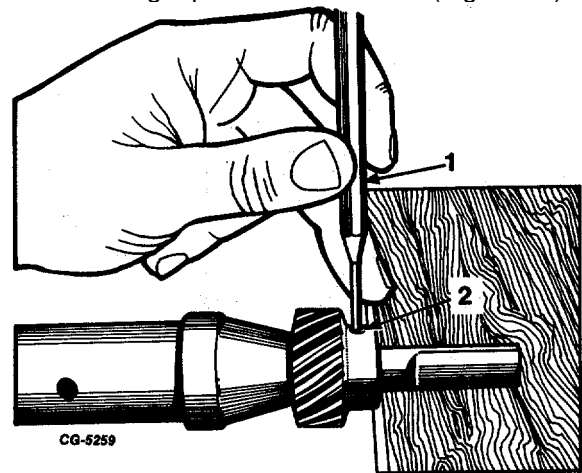

Fig. 15 Removing Distributor Drive Gear Pin
- 7. Support distributor shaft on a wood block or in a vise equipped with soft jaw shields and drive roll pin from gear or thrust collar and distributor shaft using a punch and hammer (Figure 15).